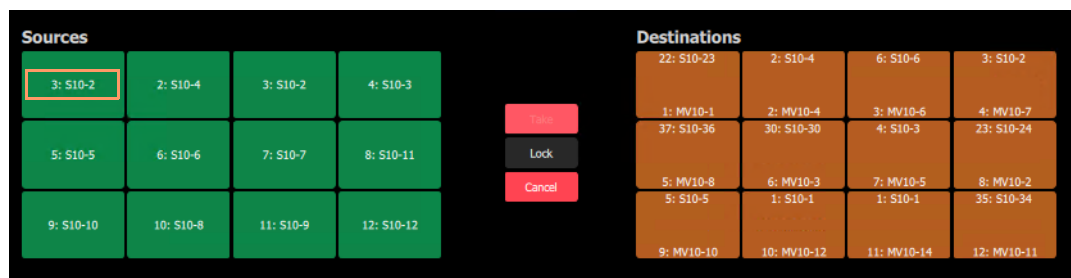

Fig. 12-30: Running XY Panel
- 8 The XY Panel runs and the newly-assigned Source is assigned to the Source button, see Figure 12-30.